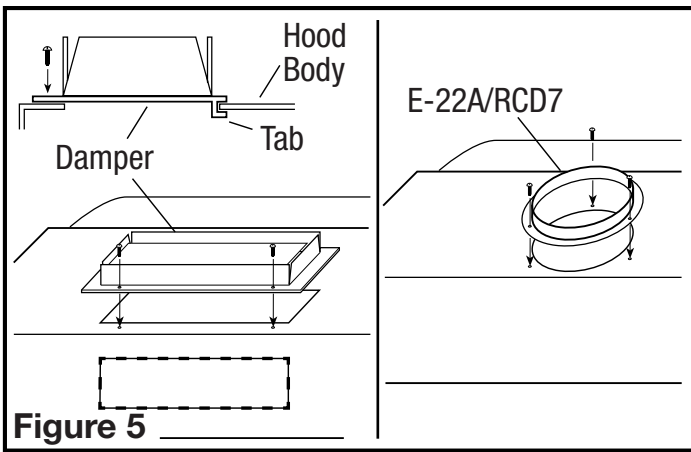

Figure 5
3. For 3-1/4" x 10" vertical or horizontal ducting, install the damper assembly to the hood by sliding the tabbed section of the damper under the hood body and securing with the two provided screws. For 7" round ducting, secure either a model E-22A or RCD7 Duct Collar (not included) to the hood with the three provided screws. Using approved duct tape, tape around the collar to seal off any air leaks (**Figure 5**).